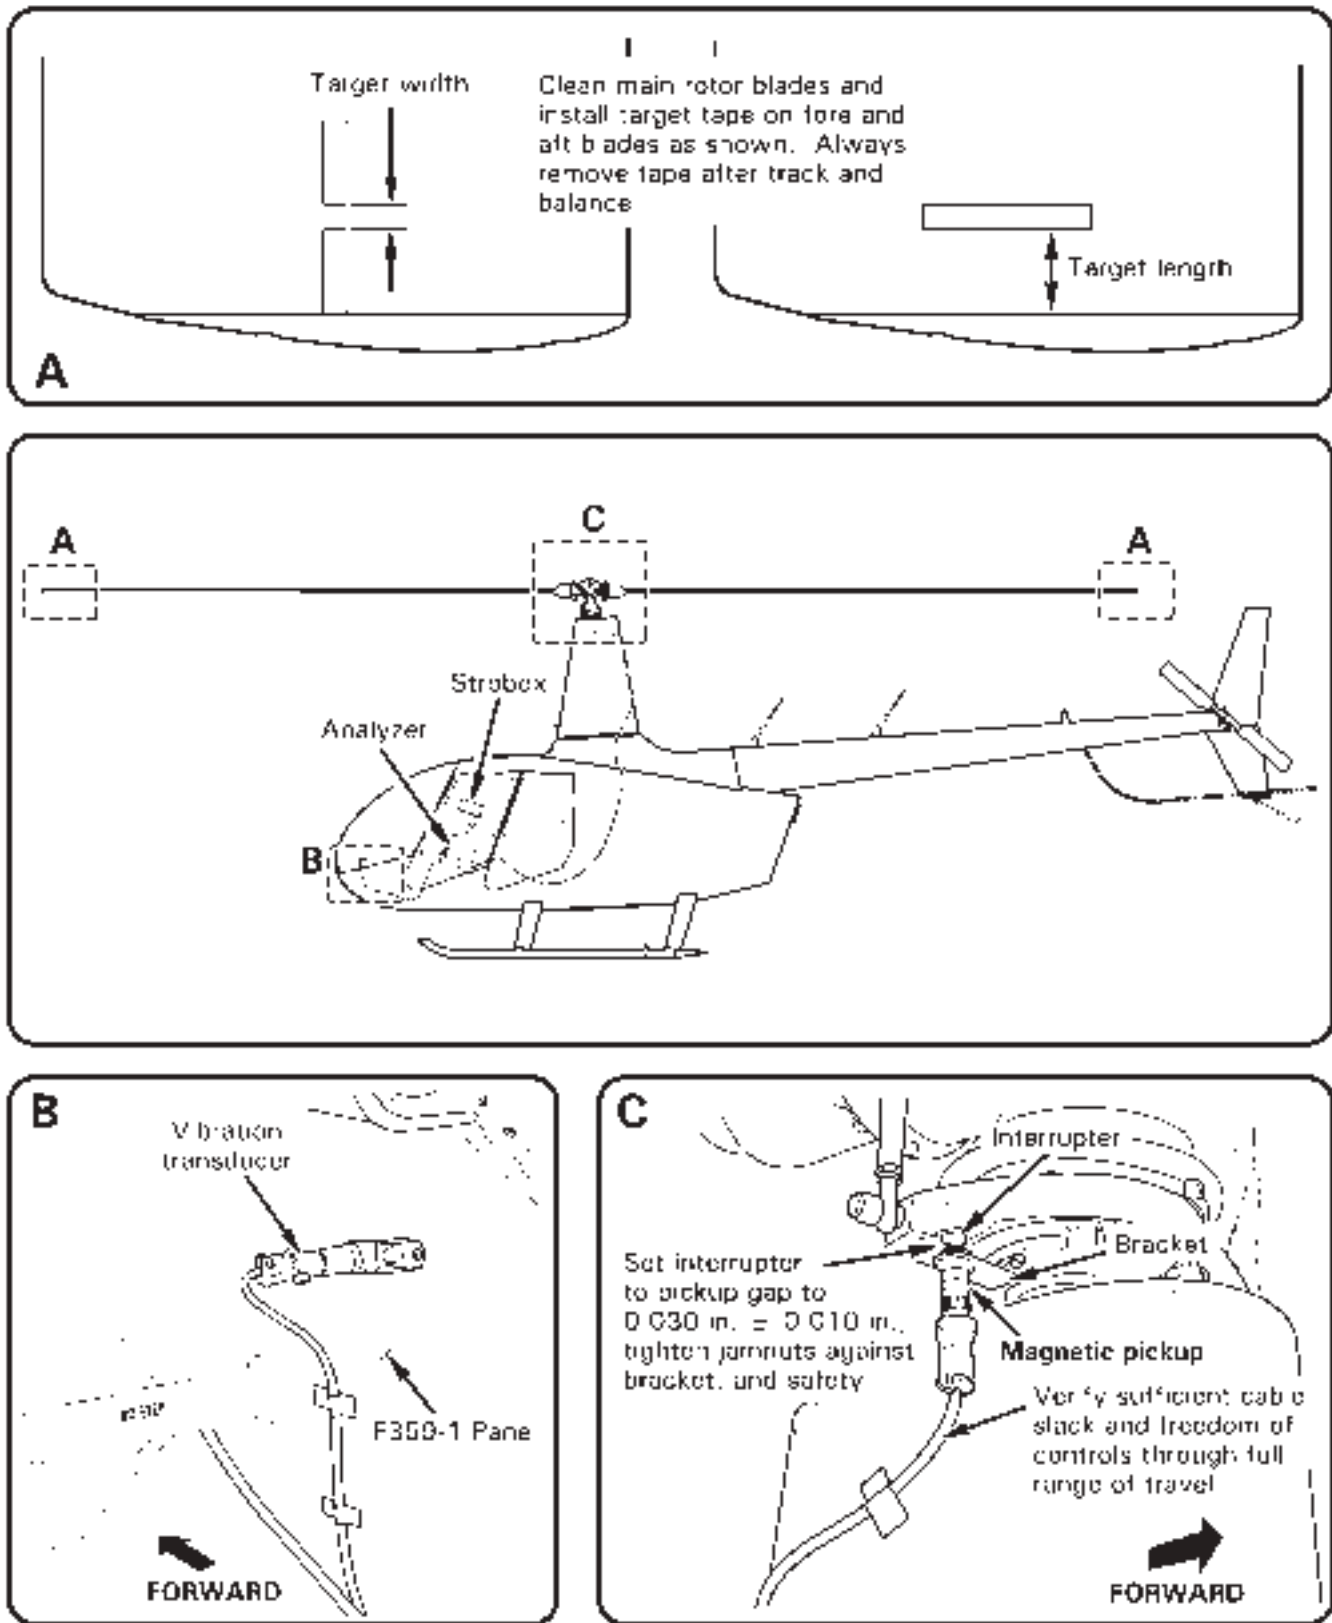

FIGURE 18-1 MAIN ROTOR BALANCING EQUIPMENT INSTALLATION
2. Clean main and tail rotor blades per Section 20-10. Install main rotor blade target tape per Figure 18-1.
3. Refer to Figure 18-1. Using appropriate hardware, attach brackets to vibration transducer and attach assembly to F359-1 panel as shown. Remove removable controls.